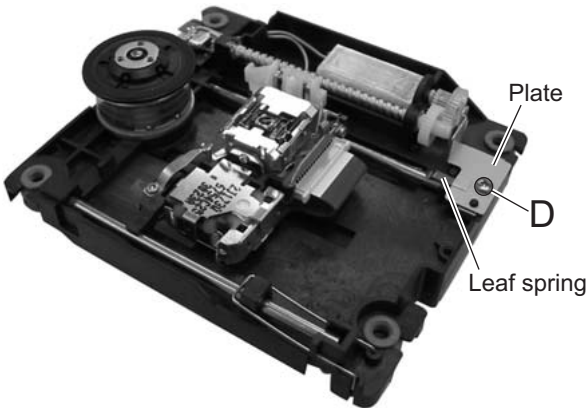
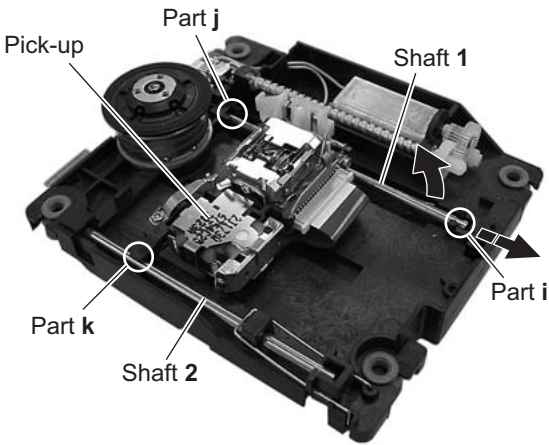
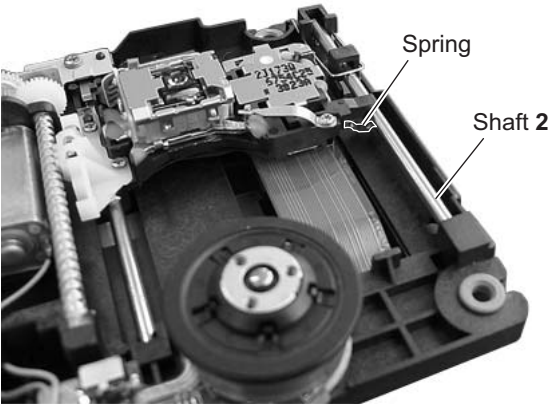

Fig.12
Fig.13
Fig.14
2.3.1 Removing the pickup (See Figure 12, Figure 13, and Figure 14)
- As Figure 14 shows, the spring must come under the shaft 2.
- (2) Insert the shaft 1 in **j**, and attach the shaft 1 to **i**.
- (3) Attach the leaf spring, and then attach the plate. Fix the leaf spring and the plate by using the screw **D**.